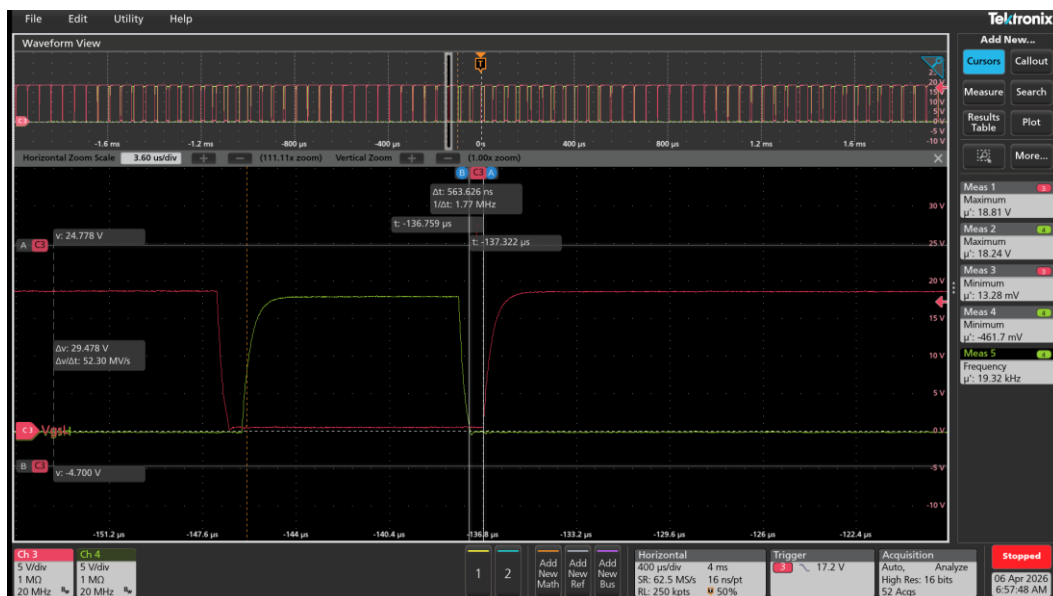

Figure 13. High Side (Red) and Low Side (Green) gate Pulse
- Attach voltage and current sensing boards to the appropriate input/output terminals as per the wiring diagram (Fig 13).